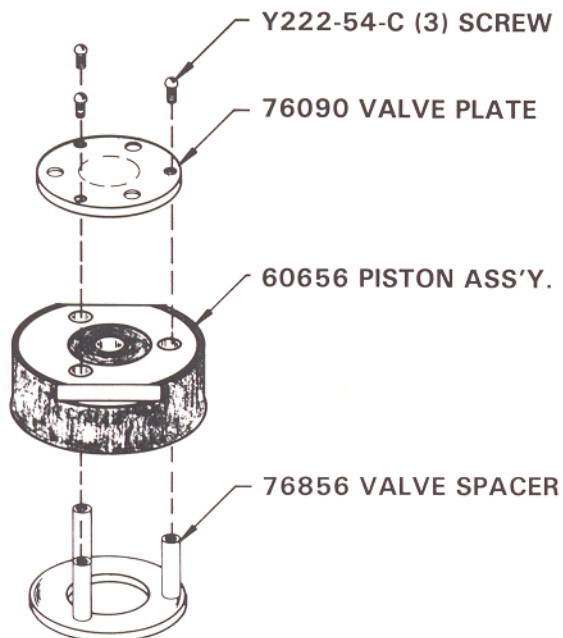
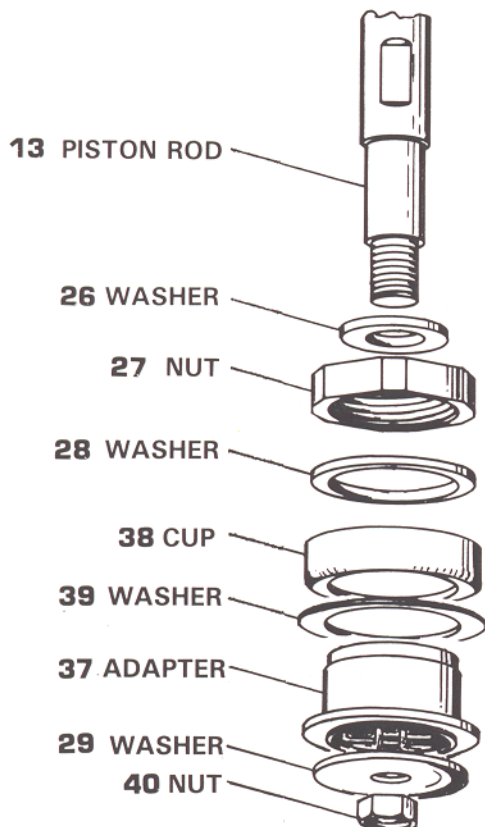

FIGURE 5
FIGURE 11
76090 valve plate disassembled from the 76856 spacer (air motor see Figure 5.)
7. Remove the (3) Y222-54-C screws from the 76856 valve spacer (see Fig. 5).
8. Remove the 76090 valve plate (see Fig. 5).
9. Remove the 76856 valve spacer from 60656 piston ass'y. (see Fig. 5).
1. Insert the 76856 valve spacer through the bottom of 60656 piston assembly. (Figure 5).
3. Fasten the valve plate down with the (3)Y222-54-C screws. This is the 61088 spacer & piston ass'y.
10. Place **26** washer on **13** piston rod. (see Fig. 11)